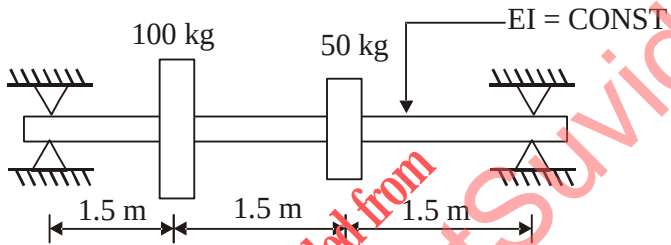

Figure 5.
- (b) Find the lowest natural frequency of vibration of system shown in Figure 5 by Rayleigh's method. Assume $E = 1.96 \times 10^{11} \text{ N/m}^2$, $I = 10^{-6} \text{ m}^4$. 10